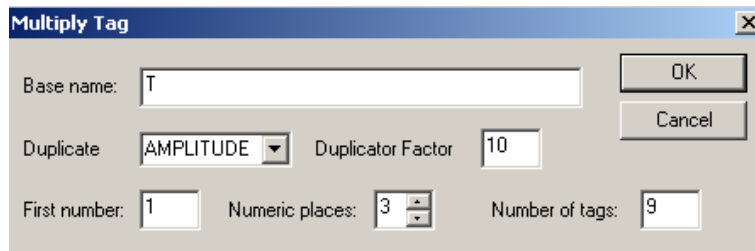

Figure 4.14. Multiply Tag Dialog Box
- Set the **Number of tags** to 9, as shown in Figure 4.14. Click **OK**.